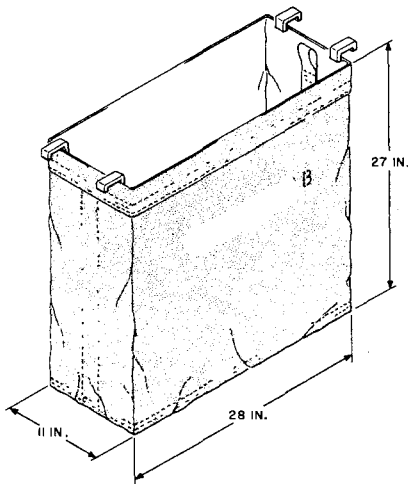

Fig. 2—B Platform Foot Bag
2.05 The B Platform Foot Bag is used with the open type aerial platform to provide protection for the legs of the workman and a place to store discarded material. This bag is made of canvas duck with a steel frame and is designed to fit in the center opening of the platform. The marking is B as illustrated in Fig. 2.